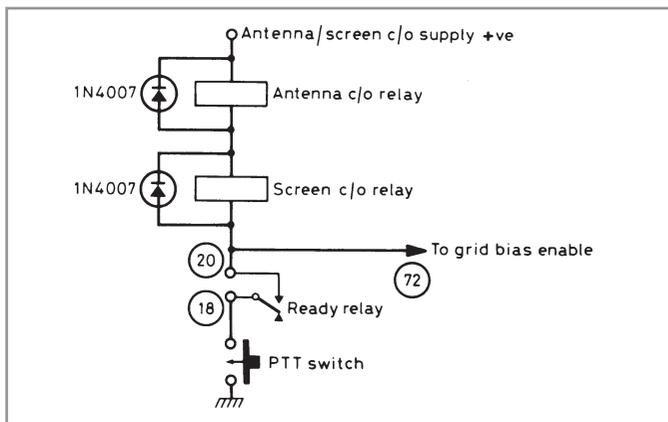

Fig. 11.10. ‘Ready’ relay logic for the comprehensive PSCU [4]. Fig. 11.15 shows another option
The ‘ready’ relay is the PSCU’s message to the outside world that the machinery is all fired up and ready for action. There are several ways of using this set of relay contacts, but in essence it should be connected to the external circuitry in such a way that the amplifier cannot be placed in circuit unless it has operated. This implies disabling the PTT line, the antenna changeover relays, the screen changeover relay and the bias-supply changeover system unless the PSCU has closed the ‘ready’ relay. Have a look at Fig. 11.10 [4] for one way of doing it. There is plenty of scope for implementing your own requirements in this area, and another possibility is presented later in Fig. 11.15, in the section on Tx/Rx control.
**Fig. 11.15. Advanced transmit/receive sequencer by G4JZQ, which can be incorporated into the comprehensive PSCU instead of Figure 11.10. The circuit includes an alternative screen-grid switching arrangement, incorporating SCR ‘crowbar’ protection which is activated by a rapid rise in anode current**